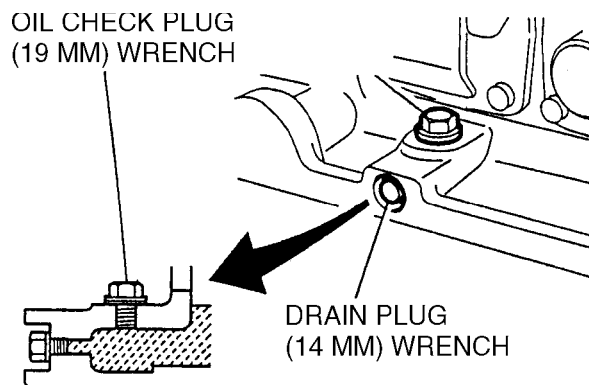

Figure 20. Vibrator Oil Maintenance
1. In every 100 hours of operation, with the machine positioned horizontally, remove vibrator oil level check plug (Figure 20) off vibrator (19 mm wrench) and see if oil is up to filler port. Be sure to clean area around check hole to prevent dirt and dust from entering.